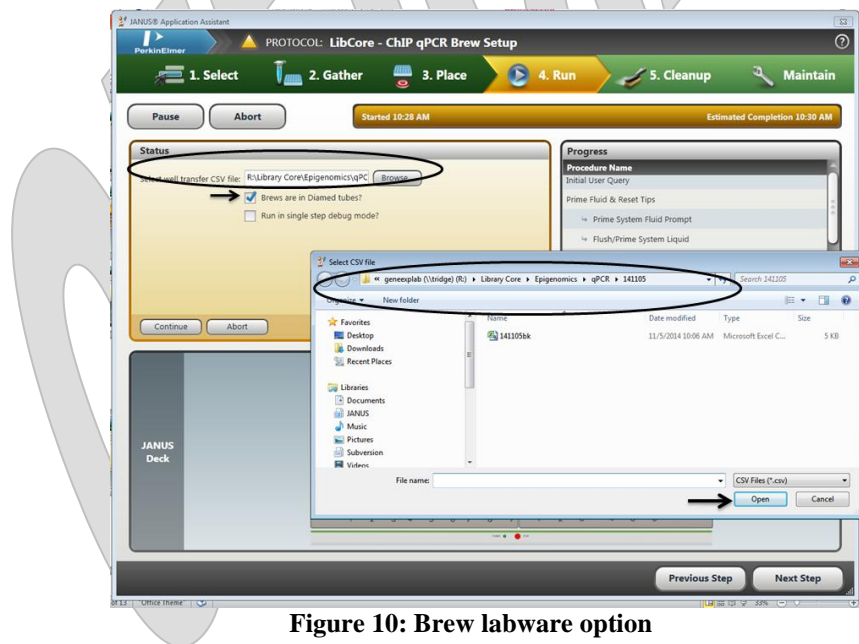

Figure 10: Brew labware option
3.22. Click on the checkbox, as indicated in Figure 10 for the brews are made in Diamed tubes.
3.23. Click “Continue” (Figure 10)